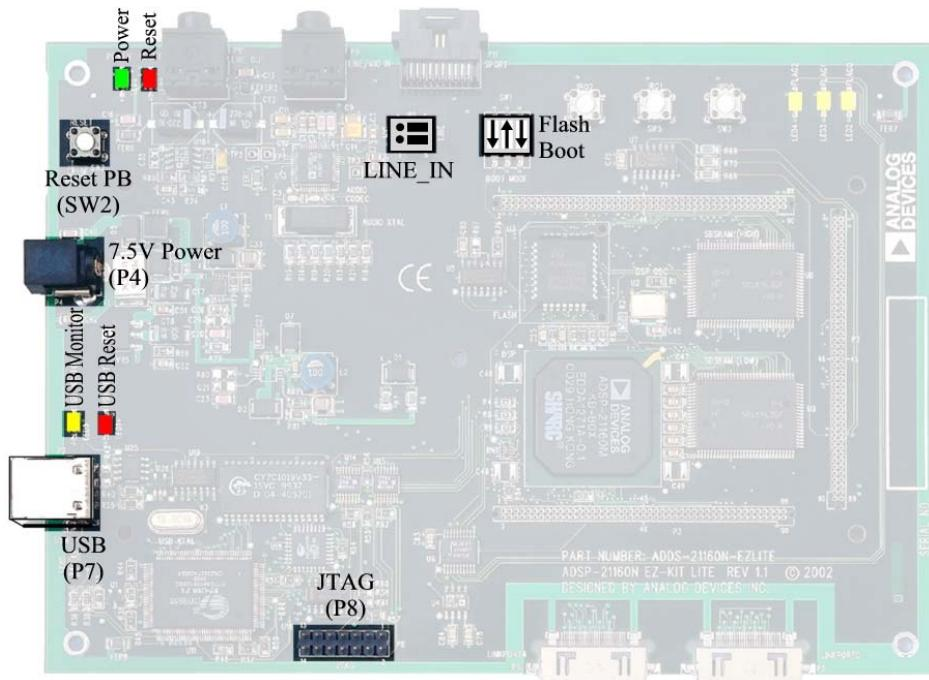

Figure 1-1. EZ-KIT Lite Hardware Setup
2. Figure 1-1 shows the default jumper settings, DIP switch connector locations, and LEDs used in installation. Confirm that your board is set up in the default configuration before moving to the next step.